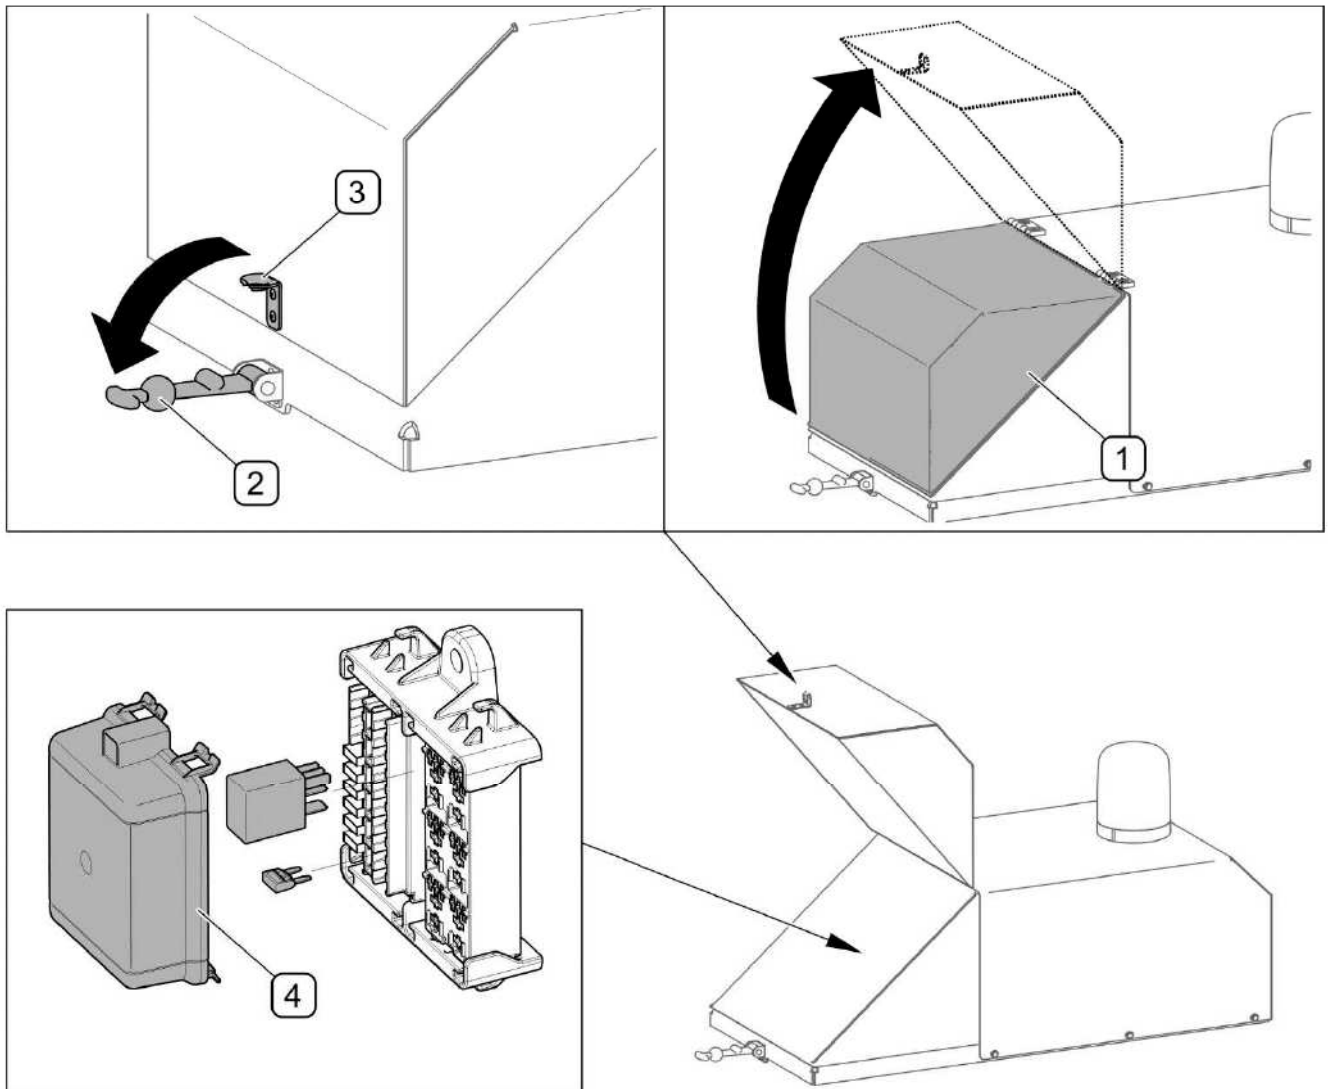

FIG. 5.2 Location of fuse box
In case of electrical system failure, check fuses located under cover (1) at the rear of the sand spreader (FIG. 5.2). Open cover (1) by removing rubber protection (2) from catch (3). Fuses and relays are located in a holder under small cover (4). Remove a blown fuse from the holder and replace it with a new one. List of fuses is shown in TAB. 5.2